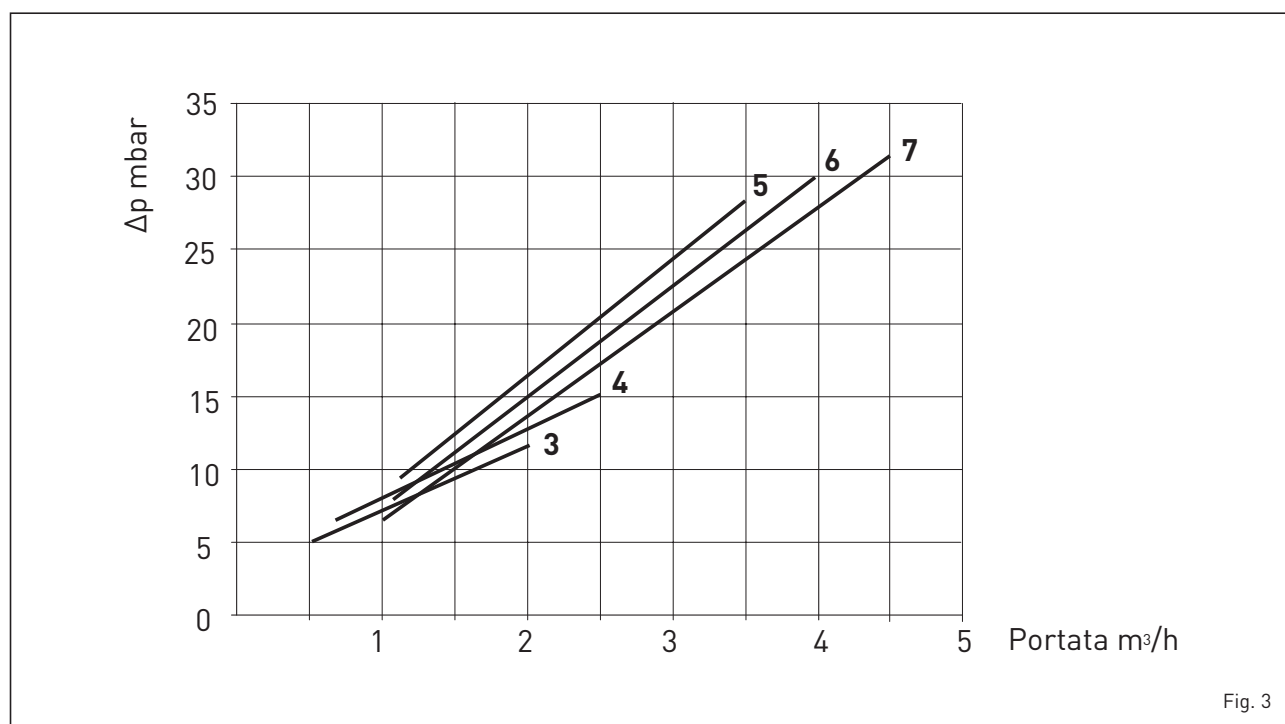

Fig. 3
3.4 PERDITE DI CARICO (fig. 3)